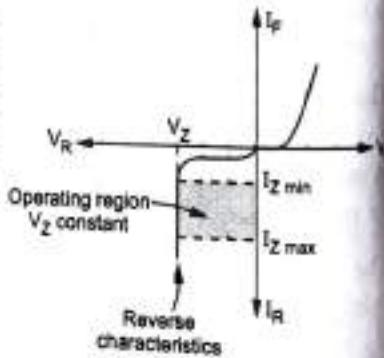

Fig. Q.38.1
**Ans. :** The zener diode has a characteristics that as long as the current through it is between  $I_{Z\min}$  and  $I_{Z\max}$ , the voltage across it is constant equal to zener voltage  $V_Z$ , as shown in the Fig. Q.38.1.